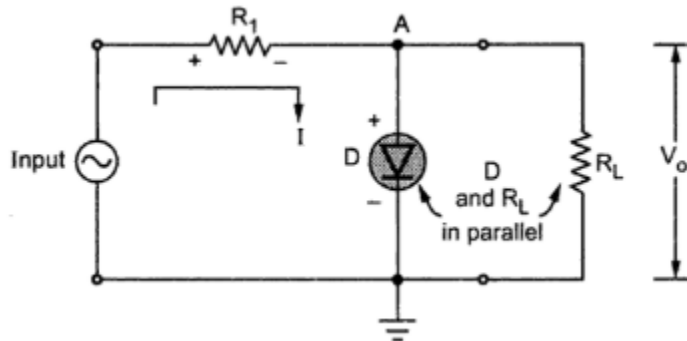

Fig. 1.58 Basic parallel clipper
- The Fig. 1.58 shows the basic parallel clipper circuit in which diode D is connected across the load resistance R_L .